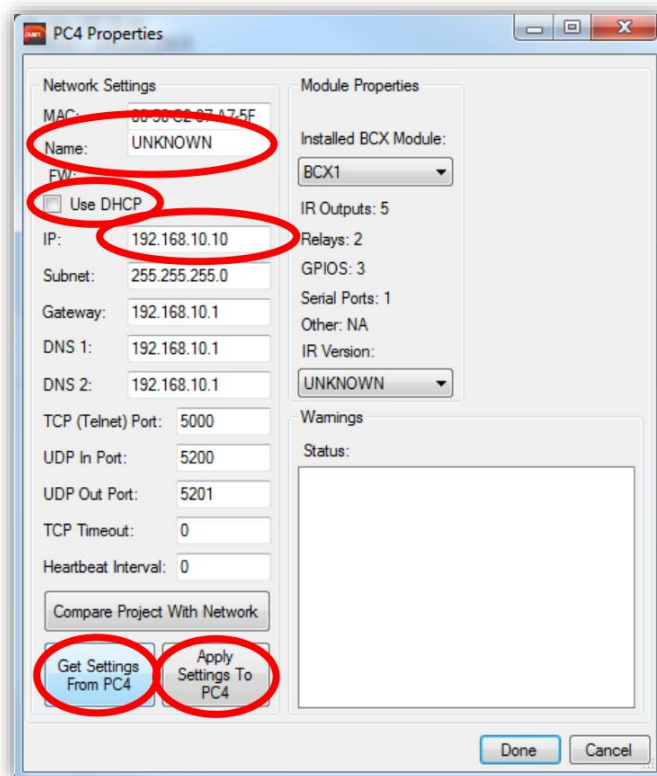

Figure 7 - The PC4 Properties Window: highlighting the fields required to add a PC4 manually.
- In the properties window (*Refer to Figure 7*) click on “Get Settings from PC4”, this will upload vital information to the box (specifically the IR Version)